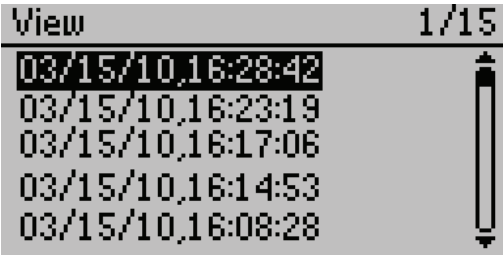

Figure 13 View data summary screen
3. Scroll through the list of saved tests using **UP** and **DOWN** (Figure 13).